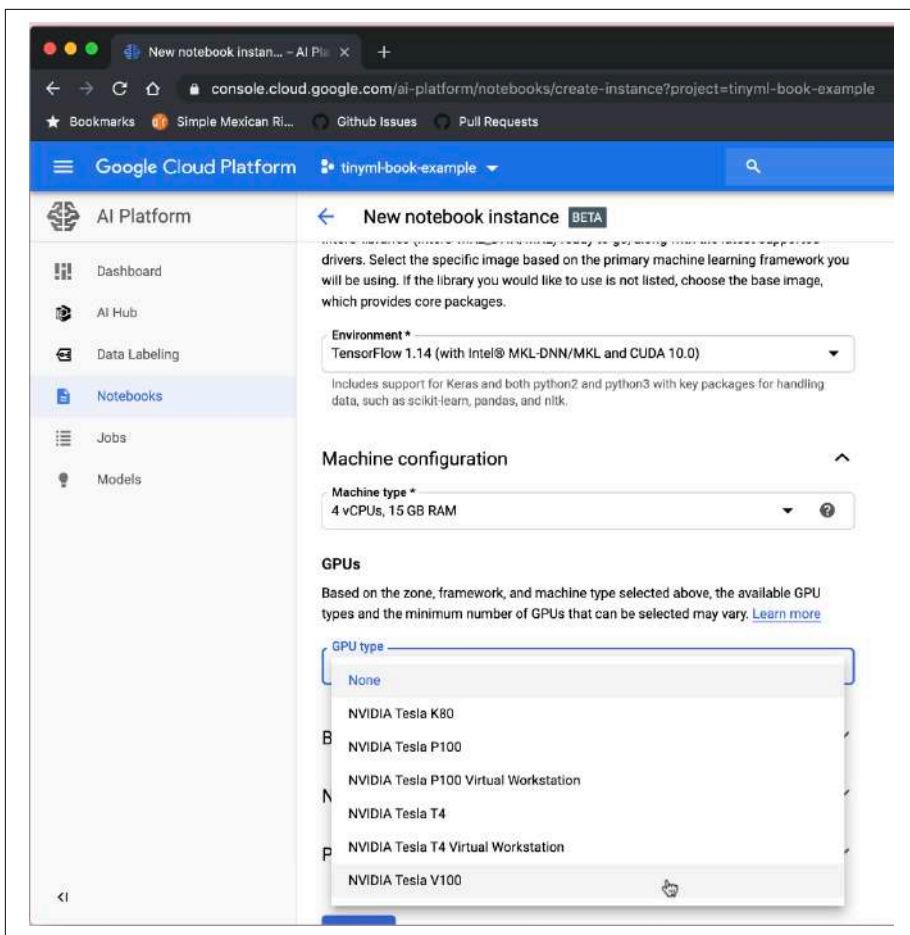

Figure 10-6. The GPU selection interface
9. Picking the right GPU will make the biggest difference in your training speed. It can be tricky because not all zones offer the same kind of hardware. In our case, we're using "us-west1 (Oregon)" as the region and "us-west1-b" as the zone because we know that they currently offer high-end GPUs. You can get the detailed pricing information using Google Cloud Platform's pricing calculator, but for this example we're choosing one NVIDIA Tesla V100 GPU, as illustrated in Figure 10-6. This costs \$1,300 a month to run but allows us to train the person-detector model in around a day, so the model training cost works out to about \$45.